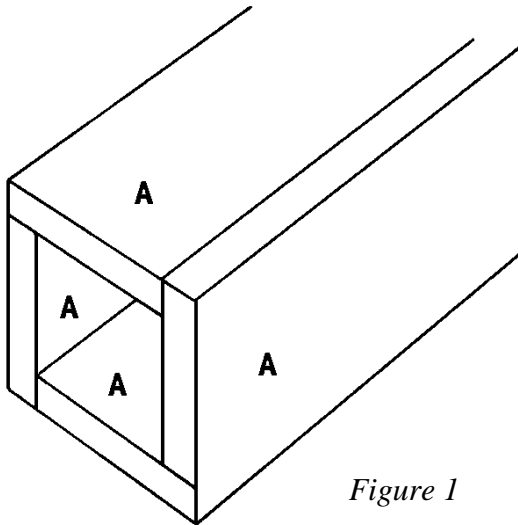

Figure 1
1. Cut four Leg Sides (A) from 1 x 4 pine, each measuring 17 inches.
2. Assemble the four Leg Sides (A), overlapping each piece in rotation as shown in *Figure 1*. With the four sides (A) in position the leg measures 4-1/4-inches wide on all sides. Apply